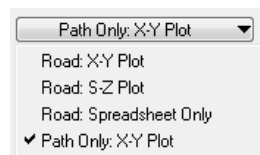

Figure 12. Options for showing plots and limiting the scope of the dataset.
- ⑯ Drop-down list to specify the information shown on the screen, and whether the dataset includes any road properties (Figure 12).